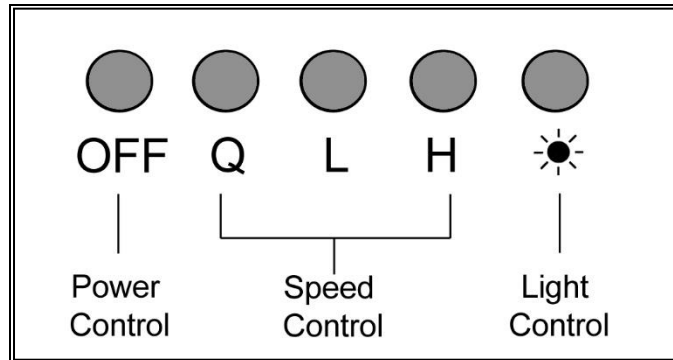

Figure 9
21. Slide the inner duct cover until it reaches to the duct cover-mounting bracket. Secure inner duct cover with two 4*8 screws to the duct cover-mounting bracket. Refer for Figure 9.